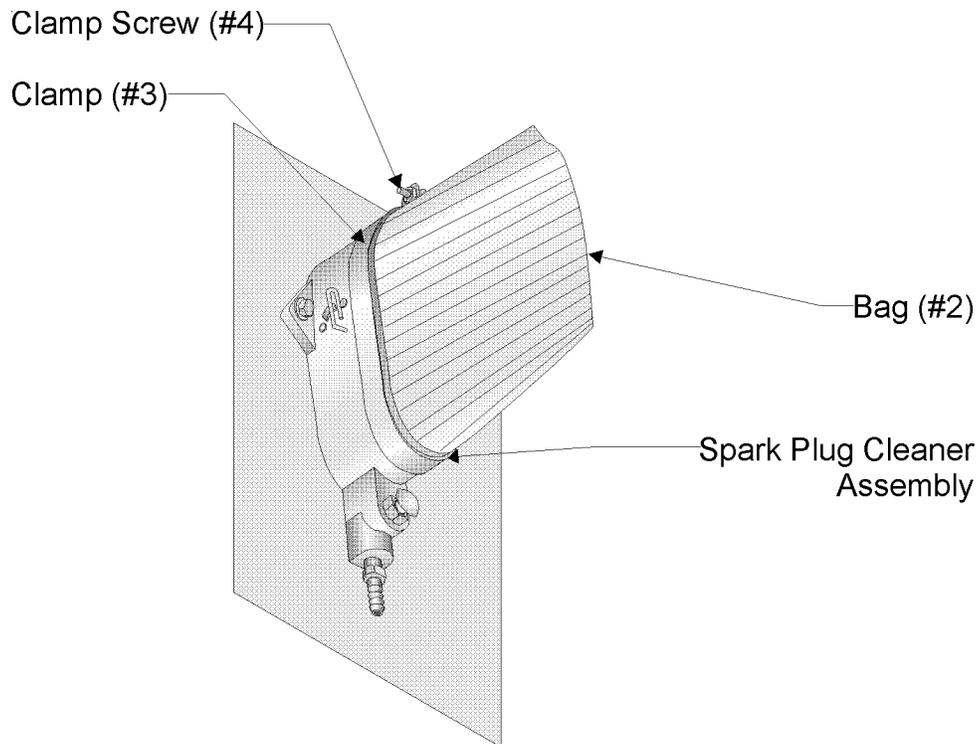

Figure 4 — Clamp Installation
Step 5: Loosen the CLAMP SCREW (#4) and place the CLAMP (#3) over the bag with the CLAMP SCREW towards the top of the BODY as mounted on the wall as shown in Figure 4.